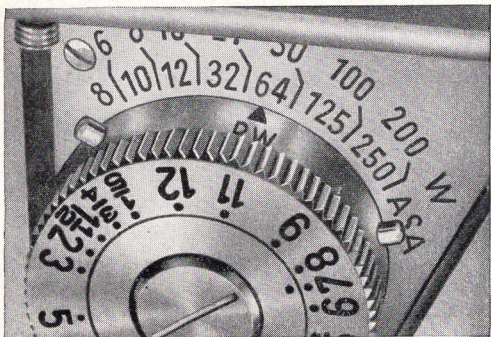

Fig. 37
To assist your memory there is, on the slow speed knob (17), a film speed indicator (18) (am. a film-speed recorder), which should be set immediately after loading camera (Fig. 37). This ring (18) turns on the small cams in a counter-clock-wise direction only.